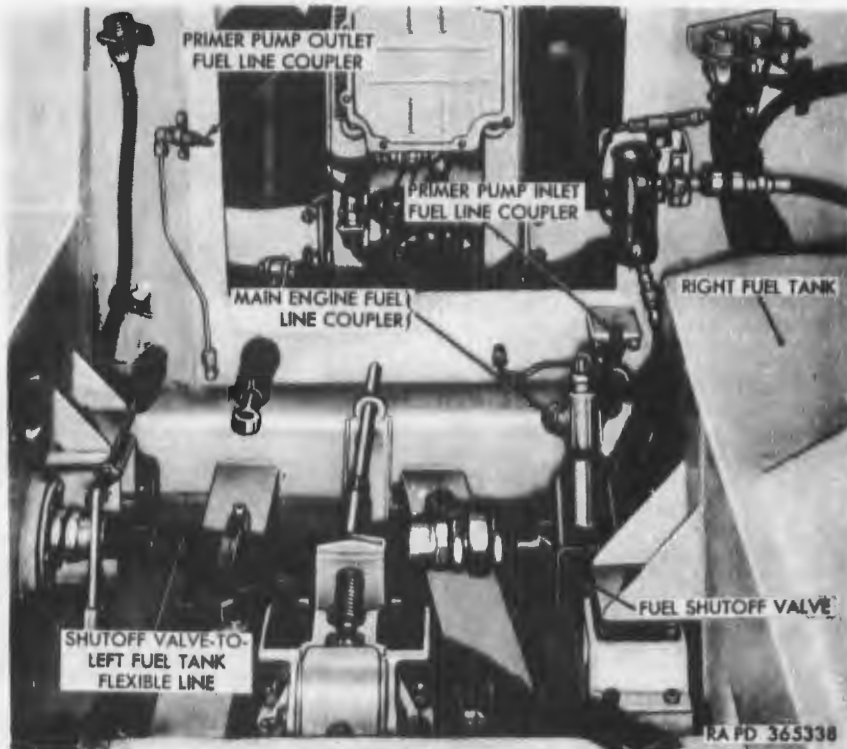

Figure 122. Fuel shutoff valve.
(3) *Fuel shutoff valve.* The fuel shutoff valve (fig. 122) is